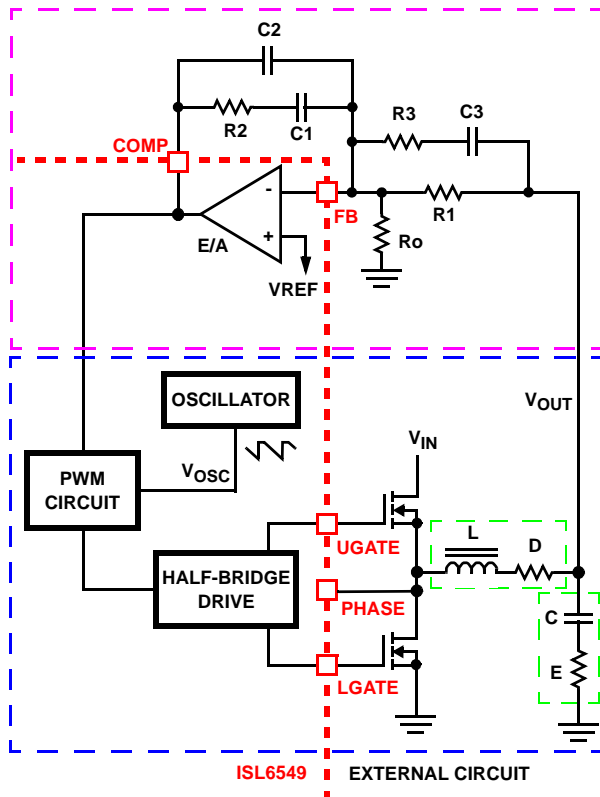

FIGURE 10. VOLTAGE-MODE BUCK CONVERTER COMPENSATION DESIGN
Figure 10 highlights the voltage-mode control loop for a synchronous-rectified buck converter, applicable to the ISL6549 circuit. The output voltage (VOUT) is regulated to the reference voltage, VREF. The error amplifier output (COMP pin voltage) is compared with the oscillator (OSC) modified saw-tooth wave to provide a pulse-width modulated wave with an amplitude of VIN at the PHASE node. The PWM wave is smoothed by the output filter (L and C). The output filter capacitor bank's equivalent series resistance is represented by the series resistor E.
The compensation network consists of the error amplifier (internal to the ISL6549) and the external R1-R3, C1-C3 components. The goal of the compensation network is to provide a closed loop transfer function with high 0dB crossing frequency (F0; typically 0.1 to 0.3 of FSW) and adequate phase margin (better than 45 degrees). Phase margin is the difference between the closed loop phase at F0dB and 180°. The equations that follow relate the compensation network's poles, zeros and gain to the components (R1, R2, R3, C1, C2, and C3) in Figure 10.
1. Select a value for R1 (1kΩ to 5kΩ, typically). Calculate value for R2 for desired converter bandwidth (F0). If setting the output voltage via an offset resistor connected to the FB pin, Ro in Figure 10, the design procedure can be followed as presented.